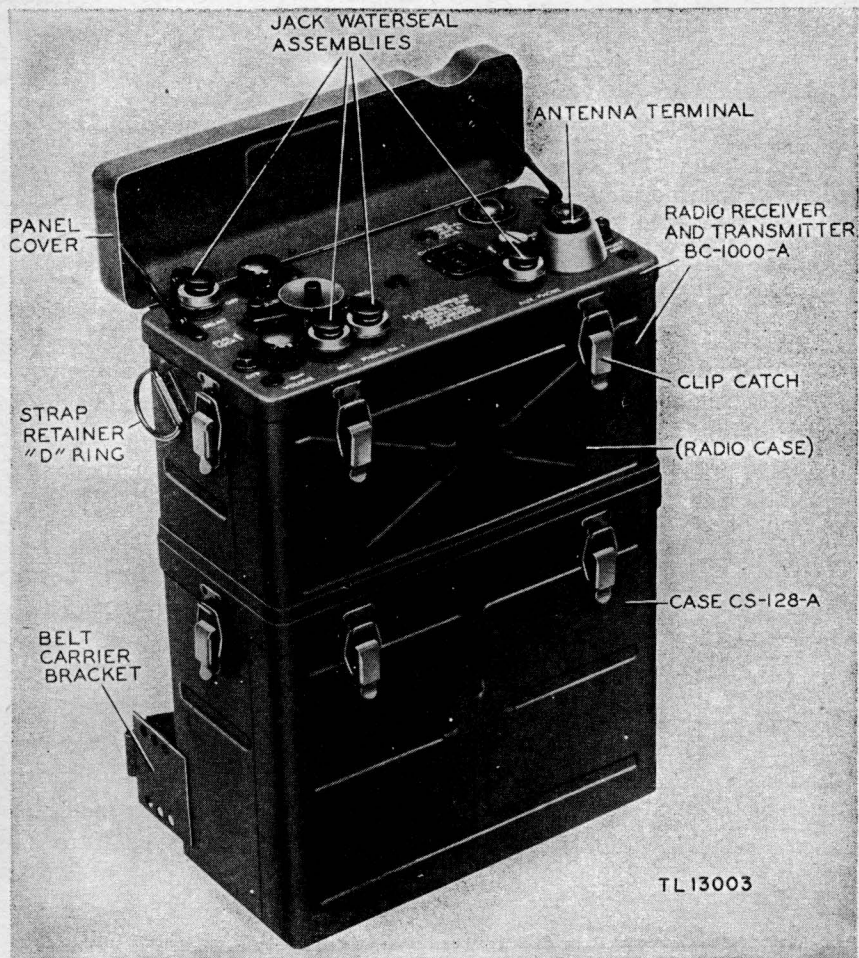

Figure 6. Radio Receiver and Transmitter BC-1000-A, with Case CS-128-A attached.
trols, jacks, and terminals are mounted on the front panel; a hinged metal panel cover fits over some of the controls and jacks. (See fig. 6.)
**a. HOUSING.** The waterproof housing is divided into two sections. The top section of the housing (part of Radio Receiver and Transmitter BC-1000-A) houses the radio chassis. A socket in the bottom of the chassis case provides for connection to Battery BA-70 or BA-80. The bottom section of the housing or Case CS-128-A (fig. 6) covers and waterproofs but does not carry the weight of Battery BA-70 or BA-80.
c. **WATERSEALS.** Synthetic rubber gaskets act as waterseals to provide protection against moisture. Special waterseal assemblies prevent moisture from entering through the jacks on the front panel. (See fig. 6.)